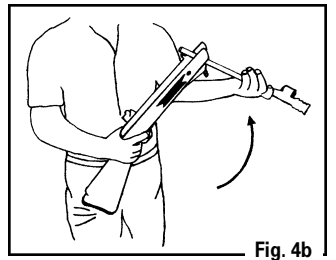

Fig. 4b
- It is now loaded and ready to fire by pulling the trigger (Fig. 4b).